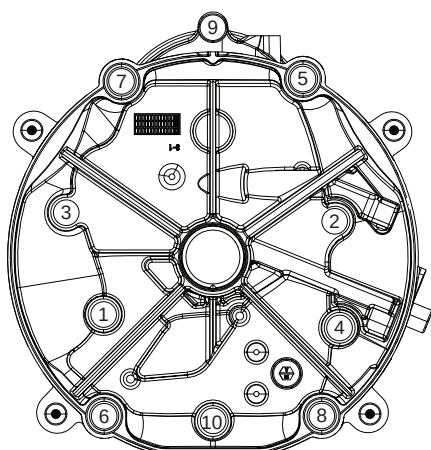

Figure 12-2. Gear Cover Torque Sequence
2. See Figure 12-2. Verify gear cover torque using the correct sequence shown. Final torque on gear cover is 32.4–39.6 ft-lb (43.9–53.7 Nm).